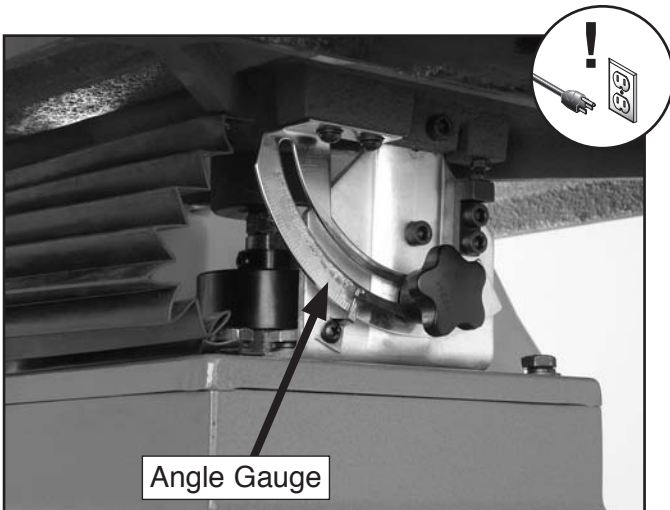

Figure 23. Adjusting angle.
3. Adjust the table to the desired angle using the angle gauge as a guide. Once the angle is set, tighten both lock knobs (**Figure 23**).